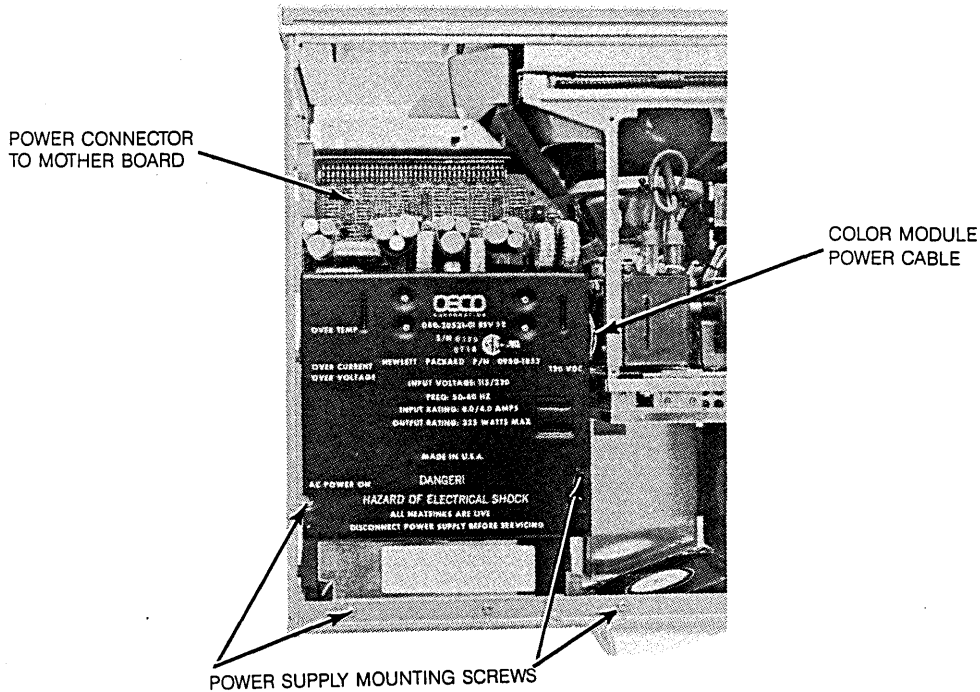

Figure 6-31. Power Supply Mounting Screws and Display Power Cable
- d. Disconnect display module power cable (refer to figure 6-31).